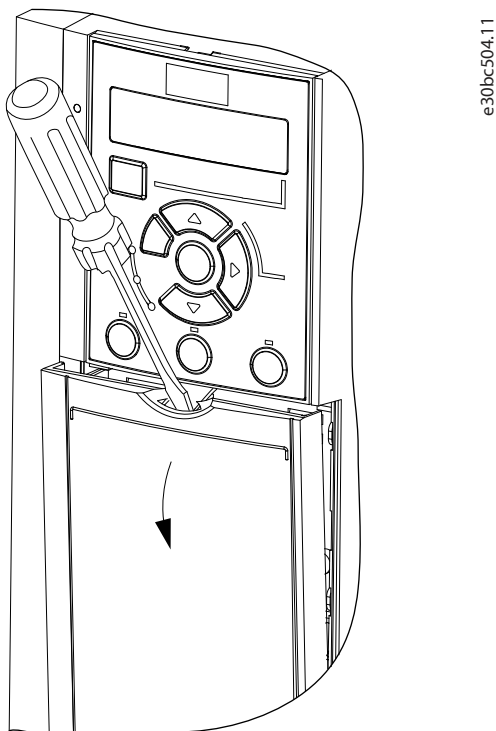

Figure 6: Control Wiring Access for Enclosure Sizes J1–J7
- Remove the cover plate with a screwdriver. See the Figure 6.